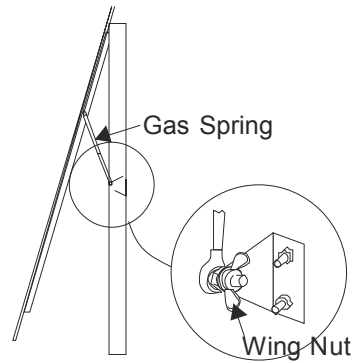

Figure 64
10. Brace the fascia open and connect the two gas springs into the appropriate brackets. Secure with washers and wing nuts (see **Figure 64**).